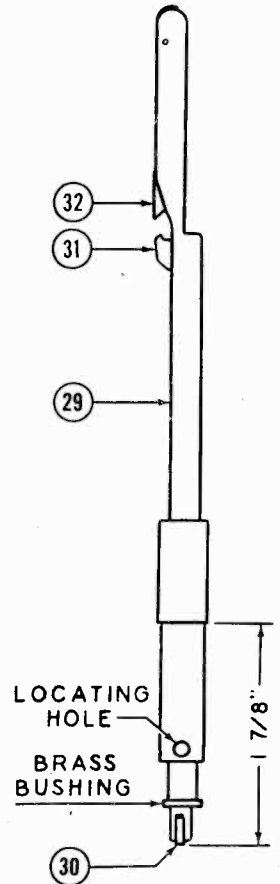

Fig. 10
- a. Should the above occur check the lift arm bearing shaft to determine that it is square with the Base Plate (64).
- b. Try removing fiber washer between metal washer and bottom of Lift Arm (58).
- c. Center Post (29) may be too long. The critical 1 7/8" dimension shown in Fig. 10 should not be exceeded.
8. If change mechanism is not binding and Idler Wheel (46) is not slipping it may be assumed that the motor is weak (has low torque) and should be replaced.
- b. Replace with new Center Post (29) making sure Set Screw (33) engages hole near bottom of Center Post (29) (See Fig. 10).